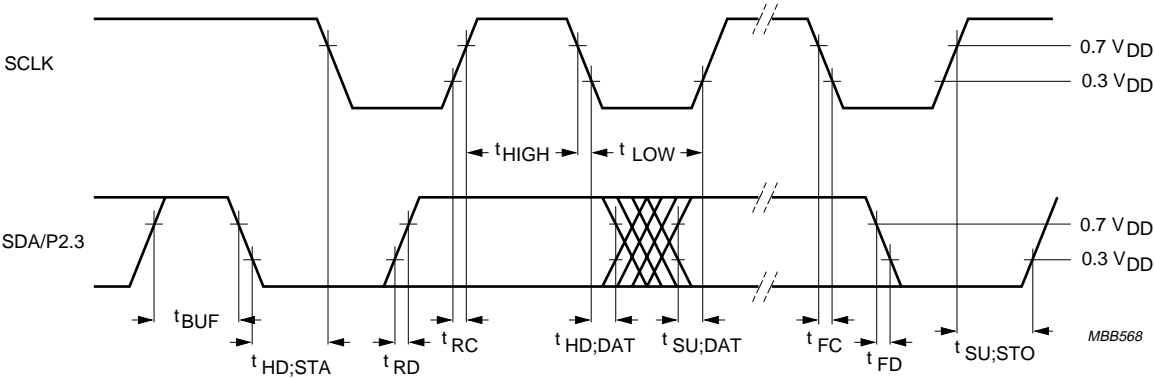

Fig.15 Slave SCLK receiver SDA/P2.3 timing (SCLK and SDA/P2.3 are inputs).
**Table 2** I2C-bus timing (see Figs 15 and 16)